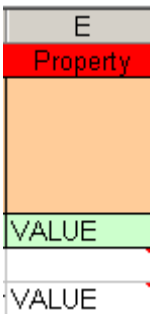

Figure 289. Obtaining the Property Name
- 2. Obtain the property name from the Property column, Figure 289.